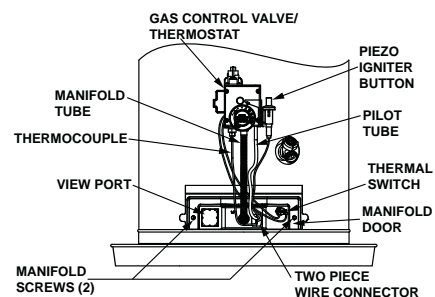

FIGURE 37.
8. Remove the screws (1/4" SAE nut driver) securing the manifold/burner assembly to the combustion chamber. See Figure 37.